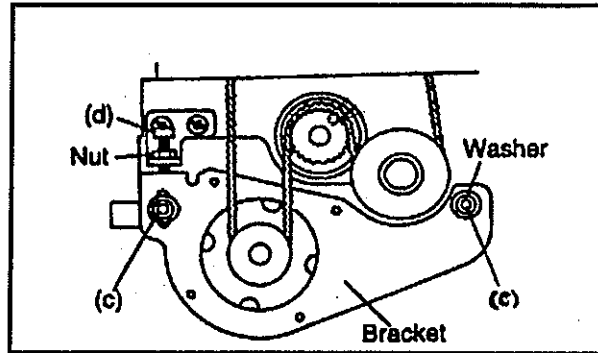

FIG.6
- (7) Check the belt tension. If it is not within the standard range, adjust the belt tension using the adjustment screw (d) and check the belt tension again (Fig.6).
- (8) Tighten the nut and secure the motor bracket using the two retaining screws (c) (Fig.6 and 7).